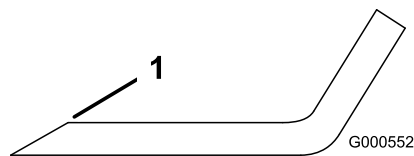

Figure 67
1. Use a file to sharpen the cutting edge at both ends of the blade (Figure 67).
Note: If the blade is not balanced, file some metal off the end of the sail area only (Figure 67).